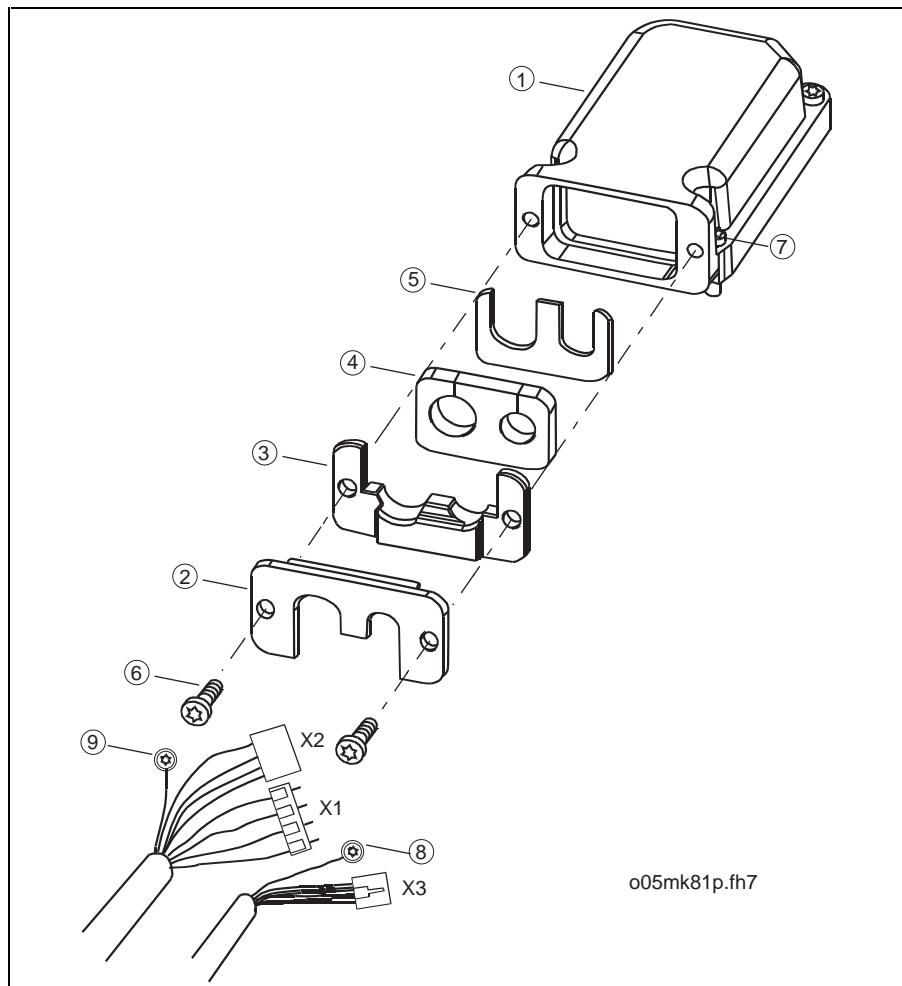

Fig. 13-1: Explosion designations of the terminal box
- ⇒ Mount support sheet (5), seal (4) and pressure pieces (3) and (2) around the cable.
- ⇒ Pull the cable ends through the opening of the terminal box (see Fig. 13-1) and slightly screw in screws (6) of the cable leadthrough.